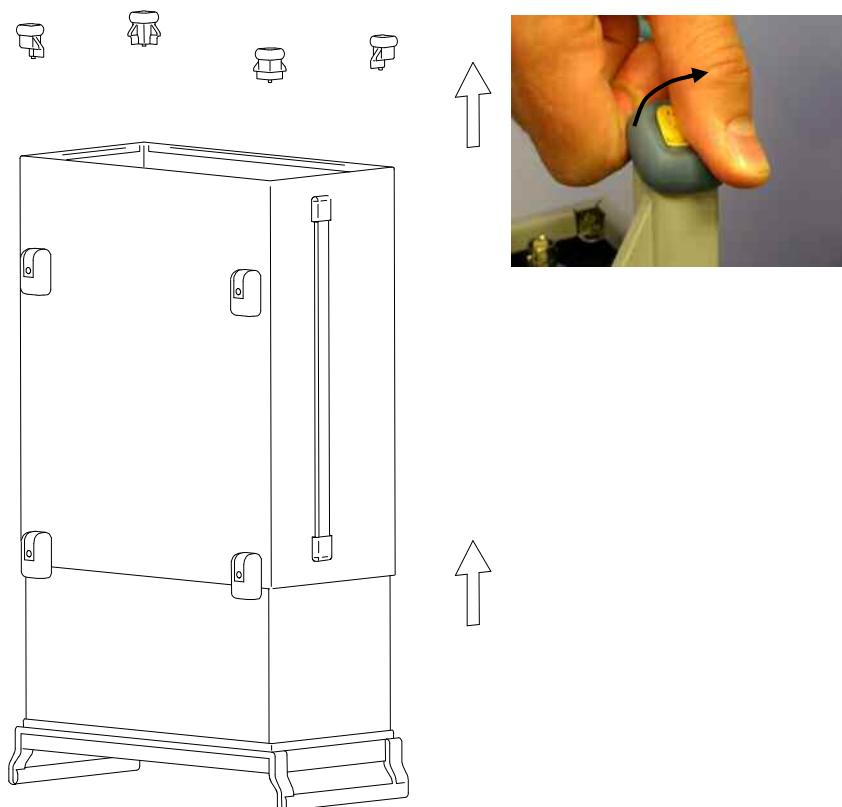

Figure 3 Removing the casing
- f Push casing upwards and remove it (see Figure 3).